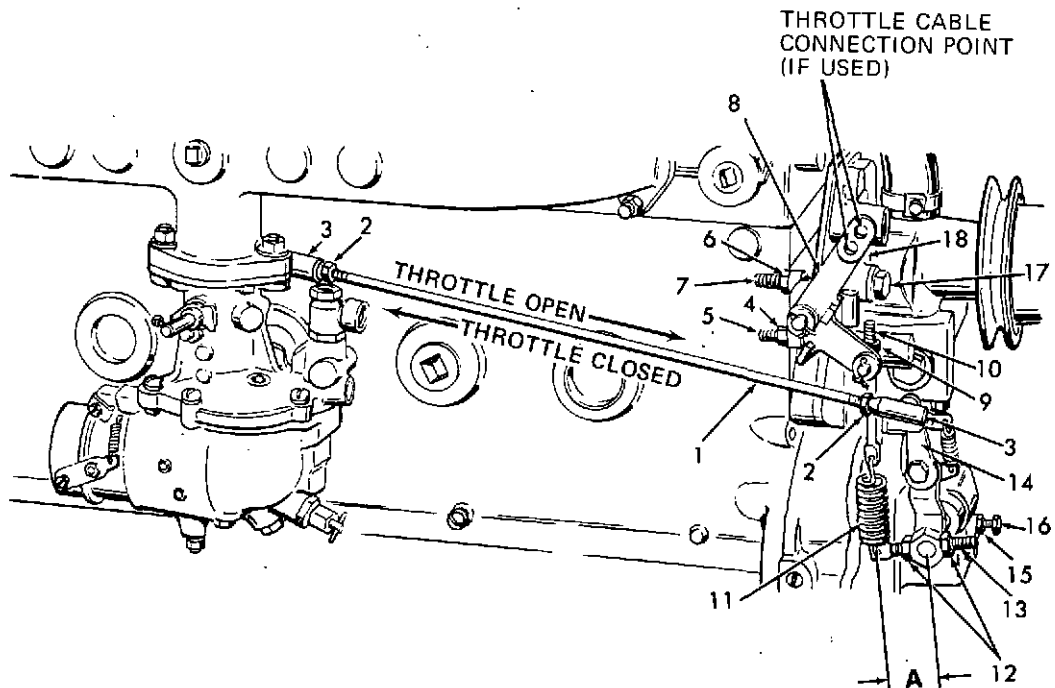

Figure 3-6. Governor Adjustment Points
Only one basic model mechanical governor is used with these White gasoline engines, but this model provides many variations in governing characteristics. The governor can be used either as the constant speed type, which is adjusted only through adjusting screws on the linkage, or as the variable speed type, in which the governed speed can be adjusted by a throttle control on the engine control panel. The governor is connected to the carburetor as shown in figure 3-6 for most variable speed applications. For constant speed use, the governor rod (1, figure 3-6) may be connected to a valve box mounted between the carburetor and intake manifold, instead of to the carburetor throttle shaft as shown. Some constant speed installations are not equipped with a bellcrank (8) and adjusting screws (5 and 7).
The adjustment points illustrated in figure 3-6 apply to all installations of Hoof Model GD505 governors used on White gasoline engines. The illustration shows a typical updraft carburetor installation. The configuration of some parts will change for use with a downdraft carburetor.
1. With the engine stopped and the throttle closed, check for  $1/32$  to  $1/16$  inch clearance between the lever on the carburetor or valve box and any throttle stop or speed adjustment screw. If this clearance is incorrect, loosen lock nuts (2, figure 3-6) and screw the rod (1) into or out of ball joints (3) to obtain this clearance. Tighten the lock nuts.
2. Stop the engine. Loosen lock nuts (4 and 6, figure 3-6) and back out adjusting screws (5 and 7) several turns.
3. Speed adjustment is performed by moving speed eyebolt (10, figure 3-6) up or down to change the tension on spring (11). Rotate nut (9) clockwise to increase speed or counterclockwise to decrease speed.
2. Stop the engine. Loosen lock nuts (4 and 6, figure 3-6) and back out adjusting screws (5 and 7) all the way, so that the stops on the bellcrank (8) contact the governor bracket (18) instead of the adjusting screws.
3. Move the throttle control (on the control panel) to the lowest speed or THROTTLE CLOSED position. Turn nut (9) counterclockwise to allow speed eyebolt (10) to move down just enough to relieve all tension in spring (11).
2. The effective length (A, figure 3-6) of sensitivity eyebolt (13) controls the governor's sensitivity to changes in speed. If the effective length is too short, the governor will cause the engine to surge; if it is too long, there will be an excessive difference between full-load and no-load engine speed.
3. With the engine running at full governed speed, loosen nuts (12). Loosen one nut while tightening the other to move sensitivity eyebolt (13) in or out of the governor arm (14) to increase or decrease effective length A of the eyebolt. Shorten the effective length until the engine begins to surge, then lengthen it until surging stops. Tighten nuts (12) to secure the adjustment.
4. Some governors are also provided with a surge screw (16) to dampen surging. If a surge screw is provided, shorten the effective length A of sensitivity eyebolt (13) just until surging begins. Loosen lock nut (15) and screw in surge screw (16) to dampen surging, then tighten lock nut (15) and nuts (12).
5. With a variable speed installation, return the throttle control to the closed position and check that the governor will allow the engine speed to return to idle. If it does not, back out surge screw (16) and repeat the adjustment in step 3.